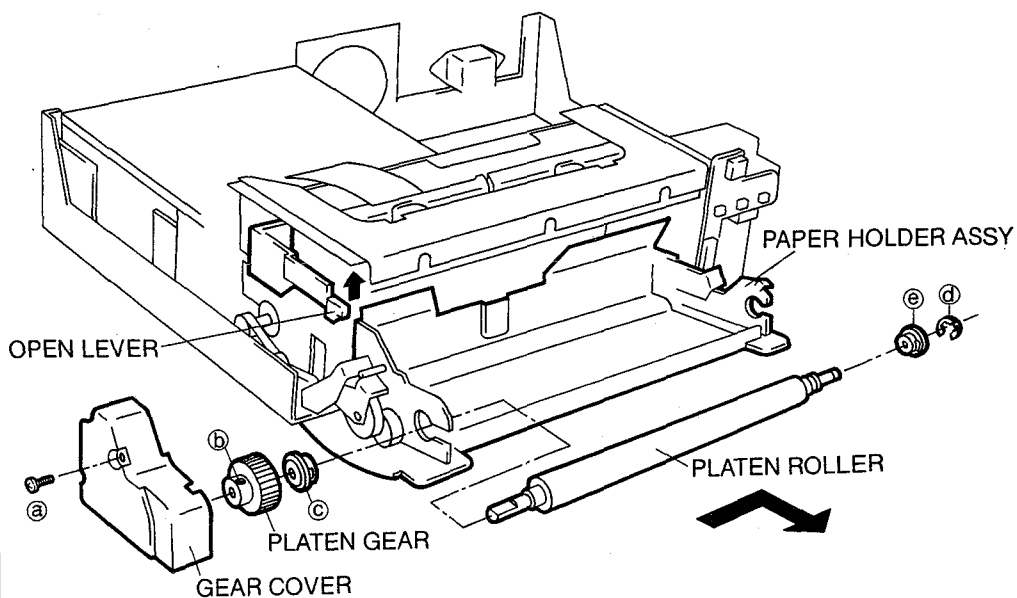

Fig. 1-1
3. Remove one screw (a) securing the GEAR COVER shown in Fig. 1-1 to remove the GEAR COVER.
4. Loosen one hex screw (b) securing the PLATEN GEAR shown in Fig. 1-1 using the 1.5mm hex wrench to remove the PLATEN GEAR.
5. Remove one BUSH PLATEN (c) shown in Fig. 1-1.
6. Move the PLATEN ROLLER in the direction shown by the arrow as shown in Fig. 1-1 to remove it.
7. Remove one RETAINING RING (d) and one BUSH PLATEN (e) shown in Fig. 1-1.